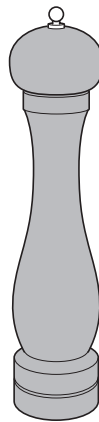

Fig. 1
- 1** Fig. 1 shows a pepper mill made from a hardwood.
- (a) (i)** Name **two** suitable hardwoods for the pepper mill shown in Fig. 1. **[2]**
- (b)** The pepper mill in Fig. 1 is produced in batches of 10,000 using CAD/CAM. Describe in detail the process of manufacturing the pepper mill using CAD/CAM. Use sketches where appropriate. **[8]**